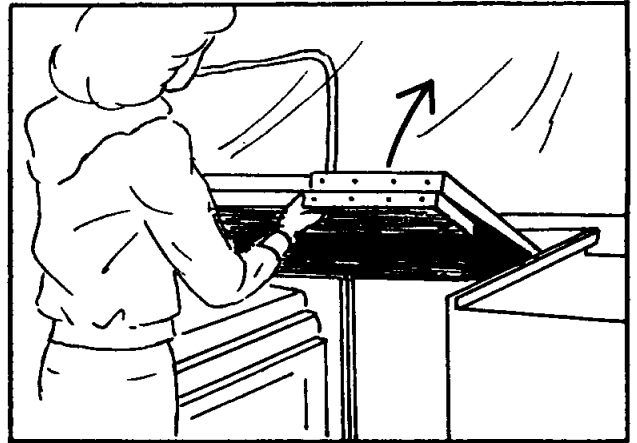

FIGURE 12
20. Step inside the trailer and lift the bathroom wall off of its travel position on the wardrobe. See Figure 12.